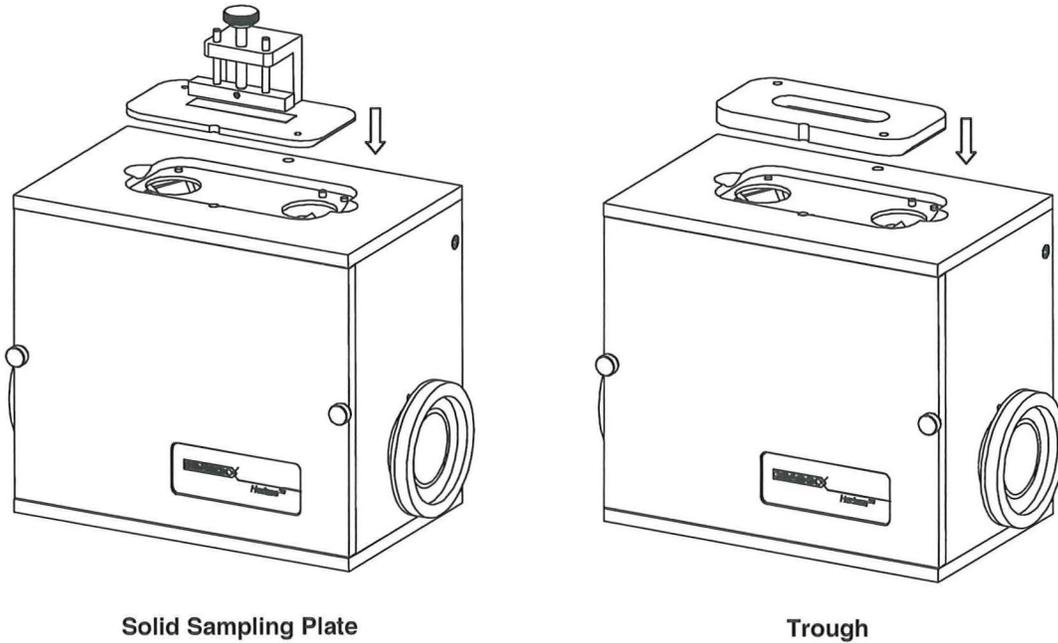

Figure 2 • Installing the Sampling Plate
- Place the sampling plate on top of the Horizon, as shown in Figure 2.